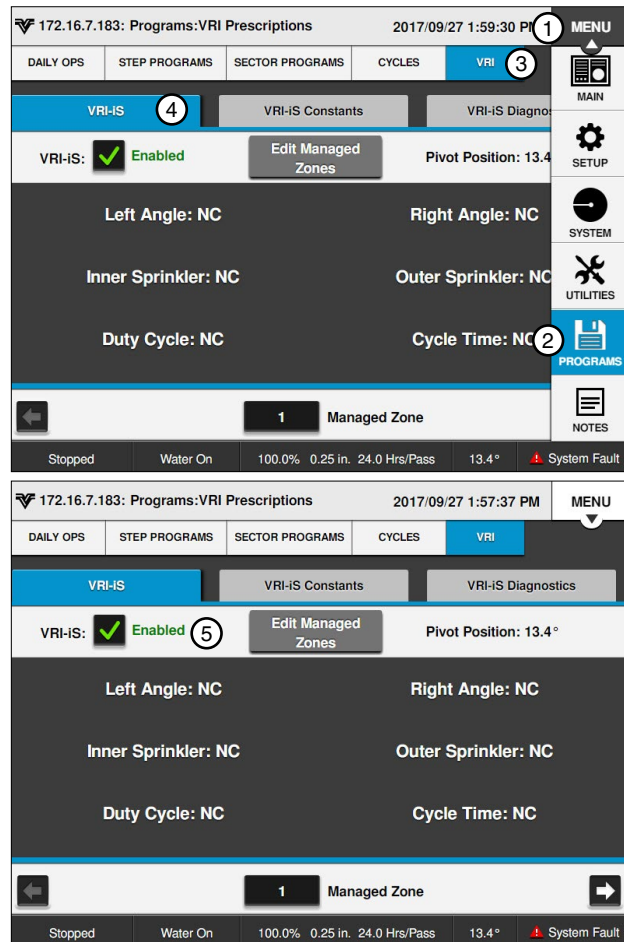

Figure 170-1 1. Menu 2. Programs 3. VRI 4. VRI-iS 5. VRI-iS Enabled
- Push **Menu**, **Programs**, and **VRI** to access the VRI-iS screen. Refer to Figure 170-1.
1. Push **Menu**, **Programs**, and **VRI** to access the VRI-iS screen. Refer to Figure 170-1.